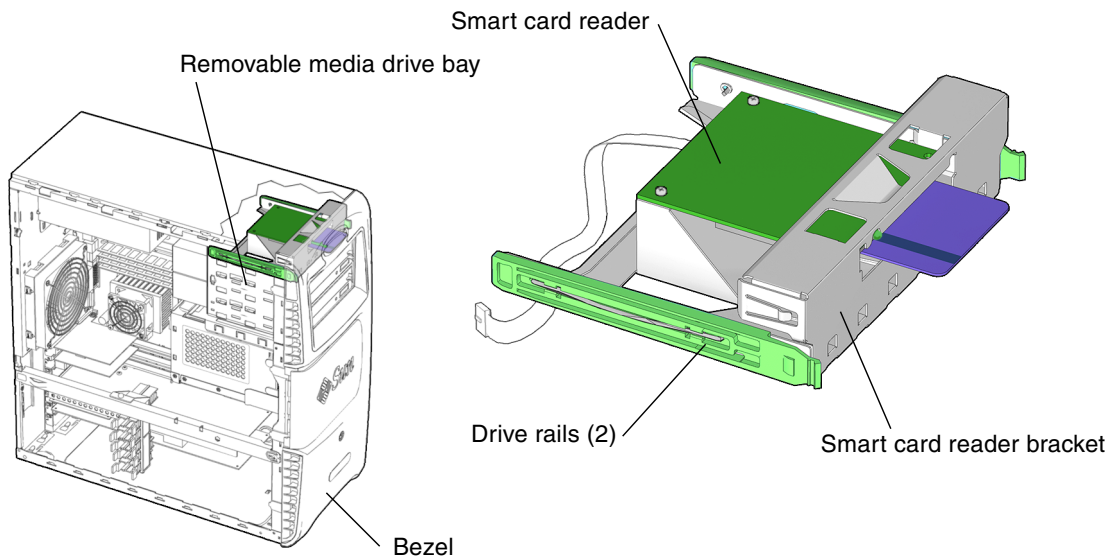
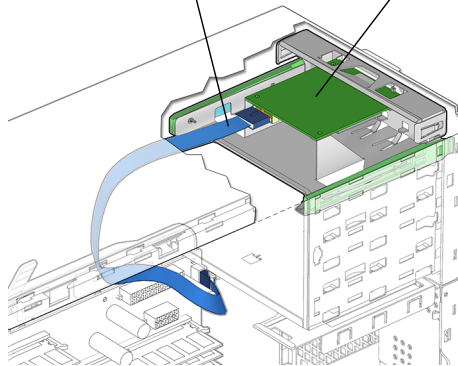

FIGURE 12-15 Smart Card Reader Location and Identification
FIGURE 12-16 Removing the Smart Card Reader Cable
The workstation supports one smart card reader (FIGURE 12-15). The smart card reader is installed on the smart card reader bracket. The smart card reader bracket has drive rails that slide the smart card reader and smart card reader bracket into the removable media drive bay. The removable media drive bay is accessible when the bezel is removed. The smart card reader interface cable is accessible when the access panel is removed (FIGURE 12-16).
2. Locate the smart card reader (FIGURE 12-16).
3. Disconnect the smart card reader interface cable from the smart card reader (FIGURE 12-16).